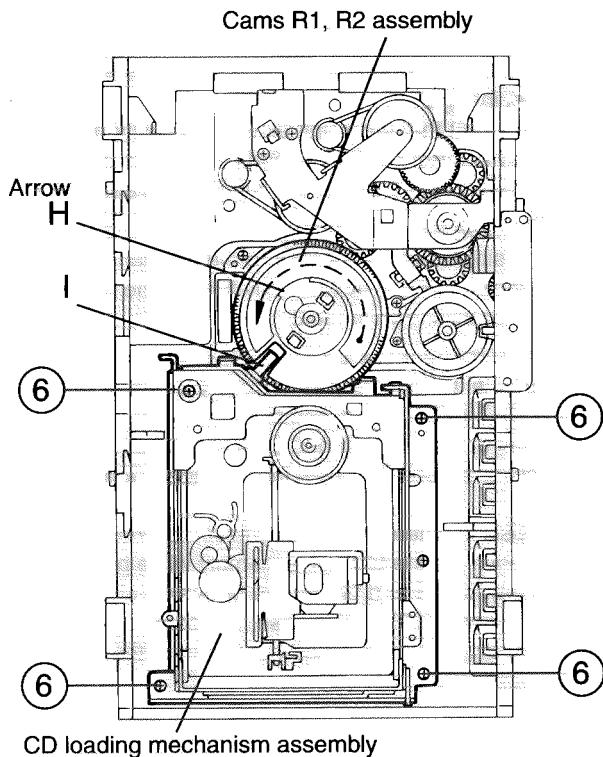

Fig.10
### ■ Removing the CD loading mechanism assembly(See Fig.10)
1. While turning the cams R1 and R2 assembly in the arrow direction "H", align the shaft "I" of the CD loading mechanism assembly to the position shown in Fig.10.